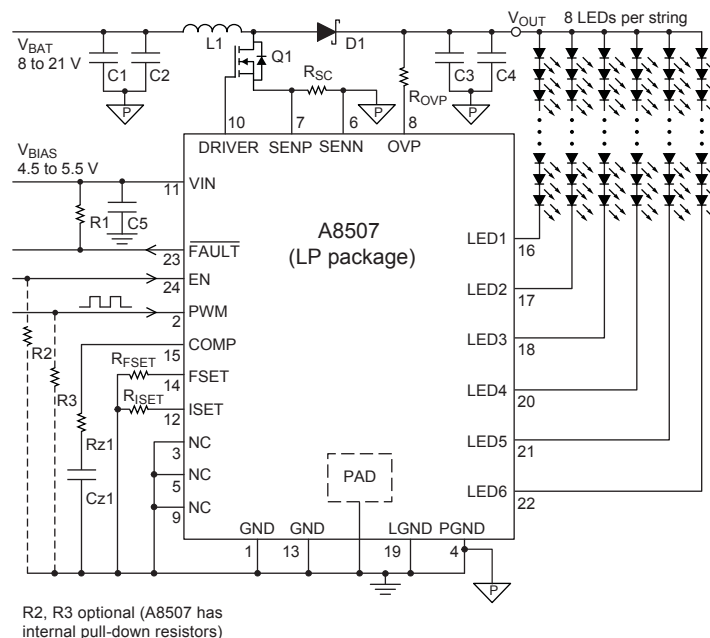

Figure 14. Typical application circuit
**PCB Layout Guidelines** As with any switching power supply, care should be taken in laying out the board. A switching power supply has sources of high  $dv/dt$  and high  $di/dt$  which can cause malfunction. All general norms should be followed for board layout. Refer to figure 14 for a typical application schematic. The A8507 evaluation board provides a useful model for designing application circuit layouts.